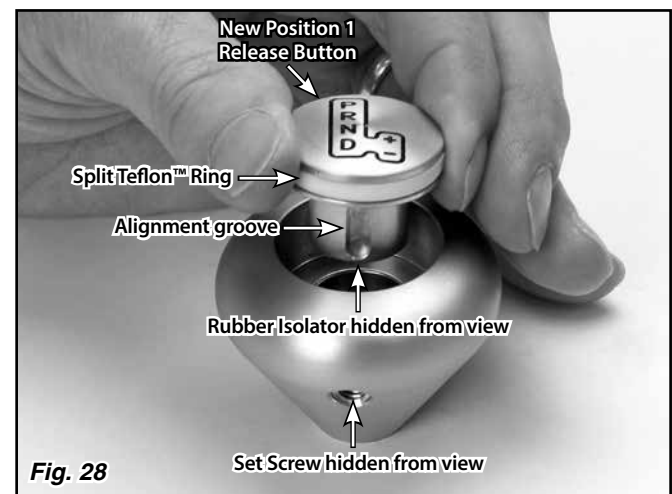

Fig. 28
Step 13: Place the split Teflon ring in the groove on the new Position 1 release button. Hold the ends of the split Teflon ring together under one of your fingers, and install the Position 1 release button into the knob, making sure the alignment groove in the release button is aligned with the set screw. **Fig. 28**